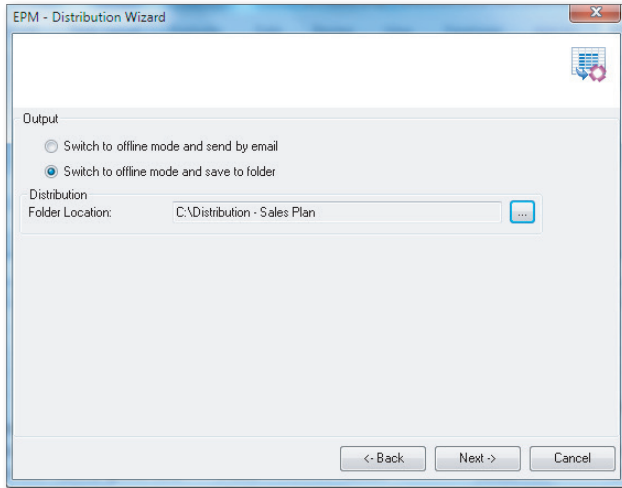

Figure 7.23 Offline Distribution Wizard—Part B
3. The output mode is specified irrespective of the type of distribution selected. One of the following output modes can be selected (Figure 7.23):